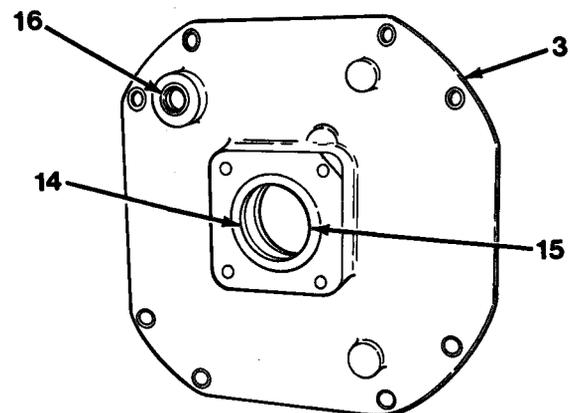

Figure 11-3
6. Remove cup of bearing (14) from output cap (3, Figure 11-3).
7. Remove oil seal (15) from output shaft bore.
8. Remove seal (16) from fork shaft bore.